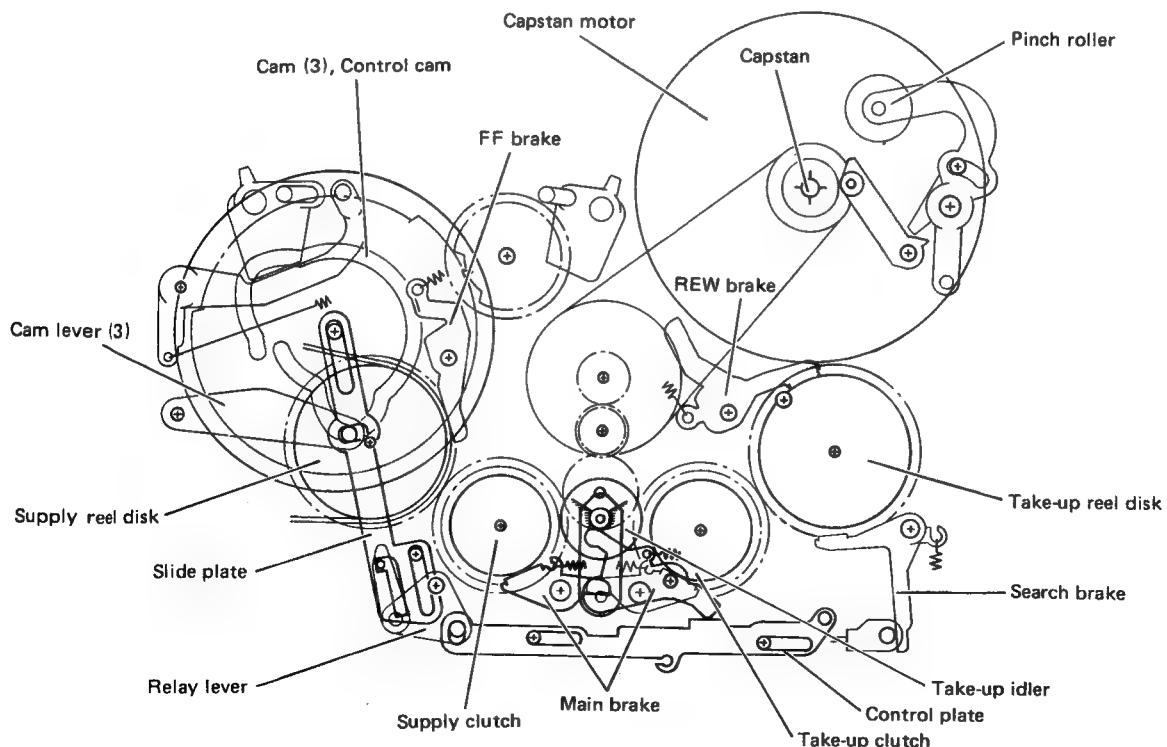

Fig. 7-5-4 Stop mode
5. The rod (2) is off the lock plate.
6. The capstan motor rotates to transport tape from the SUP side to the TU reel in the FF mode, for example. (Fig. 7-5-4)